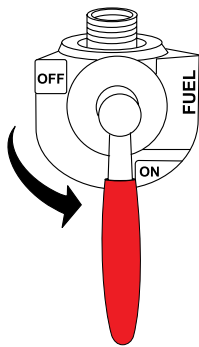

Figure 36. Fuel Tank Valve Lever (ON)
3. Return the fuel tank ON/OFF valve (Figure 36) to the **ON** position.